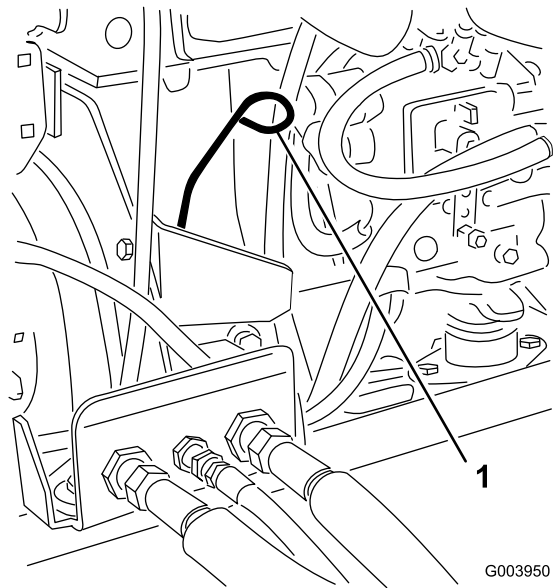

Figure 32
3. Remove the dipstick, wipe it clean, and install it (Figure 32).